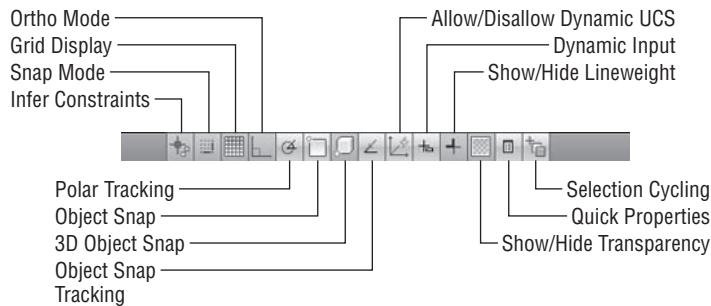

FIGURE 2.6 The toolbar as it has been set up
2. On the left side, some of the tools, such as Object Snap and Dynamic Input, are turned on while others remain off. Make sure that Polar Tracking, Object Snap, Object Snap Tracking, Allow/Disallow Dynamic UCS, and Dynamic Input are turned on and all the others are turned off. You can identify the buttons by pausing over each and exposing its tooltip. Your toolbar should look similar to Figure 2.6.